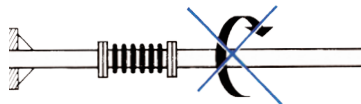

Fig. 1
- Avoid torsion at all costs, both during installation and operation (Fig. 1)